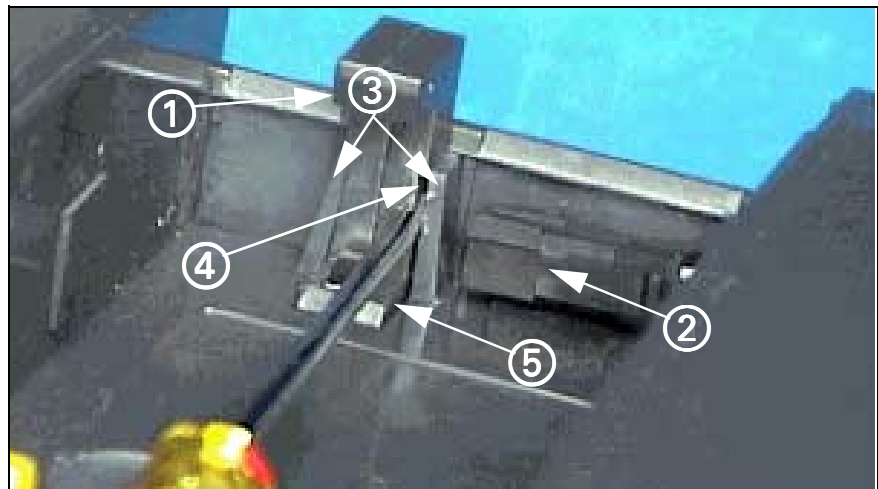
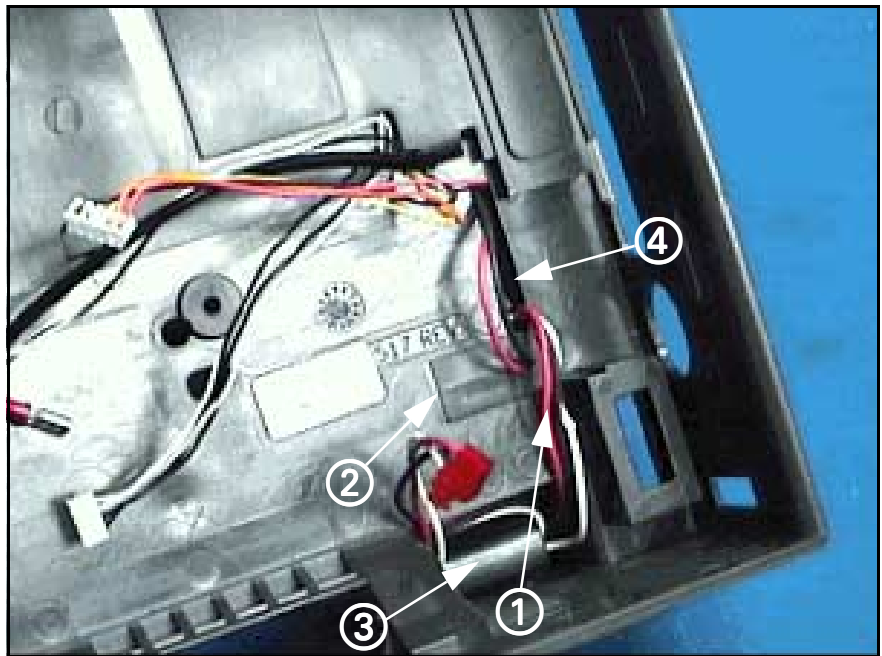

Figure 3-19 Battery Connector Subassembly
Figure 3-20 Battery Connector Subassembly Access Inside Rear Housing
6. Tuck ferrite on power cable into cavity in lower right back of rear housing. (See ③ in Figure 3-20 on page 43).
2. With battery compartment door and battery removed, disconnect inline battery connector (② in Figure 3-19) from battery terminal connector (① in Figure 3-19) in battery compartment.
Note: The battery terminal connector subassembly (① in Figure 3-19) is inserted into the battery compartment from inside the rear housing, through an opening in the back of the rear housing (⑤ in Figure 3-19 and in ② in Figure 3-20), and held in place by the spring action of two locking tabs (③ in Figure 3-19).
3. Slide a thin metal wedge, such as a small flat-blade screwdriver, between locking tab and battery connector subassembly (see ④ in Figure 3-19) on each side as you press subassembly into rear housing.
Note: Figure 3-19 shows right hand locking tab wedged open (④ in Figure 3-19). Pressing on the top of the subassembly keeps the right hand locking tab unlocked while you wedge left hand tab open.
4. Remove power cable (① in Figure 3-20) from inside rear housing assembly.
5. Insert replacement power cable (① in Figure 3-20) into rear housing assembly, ensuring female in-line battery connector enters battery compartment through opening in rear housing (④ in Figure 3-20).
6. Position ferrite on power cable (③ in Figure 3-20) into cavity in lower right hand back of rear housing.
7. From inside of rear housing (Figure 3-20), insert battery terminal (① in Figure 3-19) through opening in rear housing (② in Figure 3-20 and also ⑤ in Figure 3-19).
8. Squeeze locking tabs (③ in Figure 3-19) in battery compartment together while pressing on battery connector from inside rear housing to lock replacement battery connector subassembly in place.